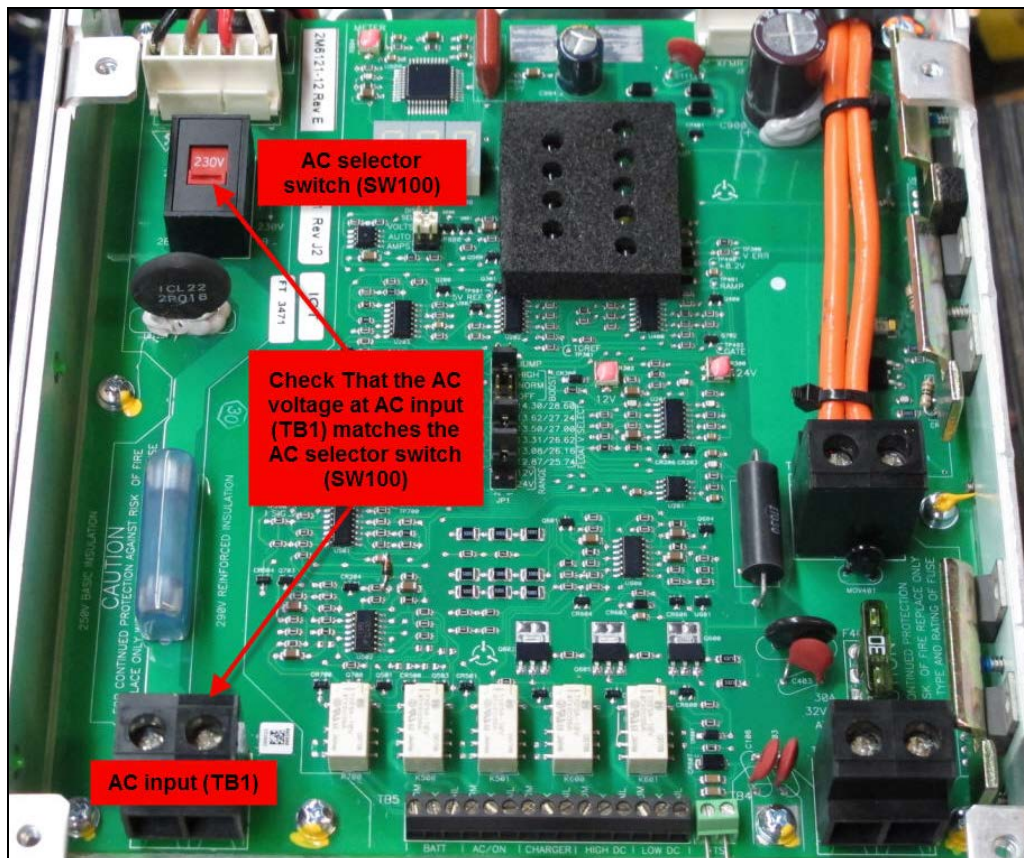

Figure 1
1. AC Fail Possible Cause 1: AC voltage selection switch does not match actual AC voltage (see Figure 1)